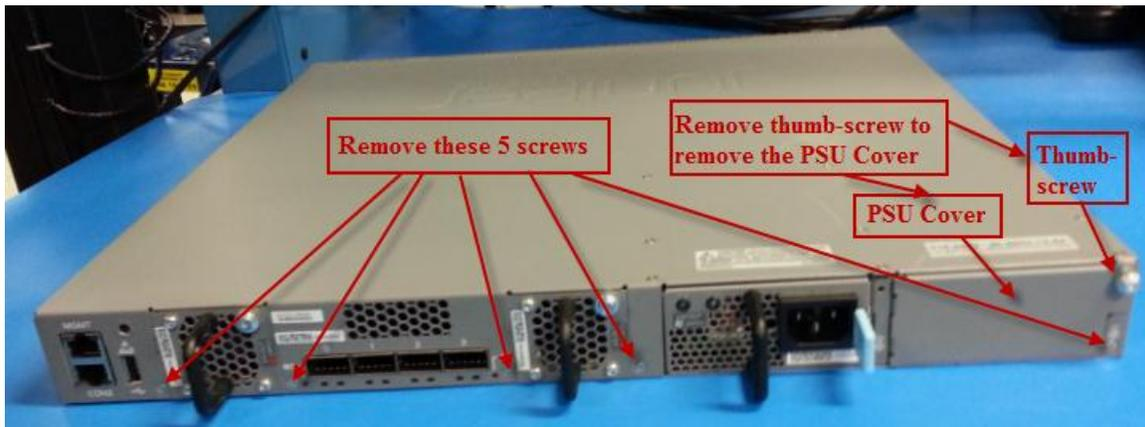

Figure 3-4: Rear screws
4. Remove five screws and the PSU thumb-screw and PSU cover from rear of chassis. (figure 3-4)